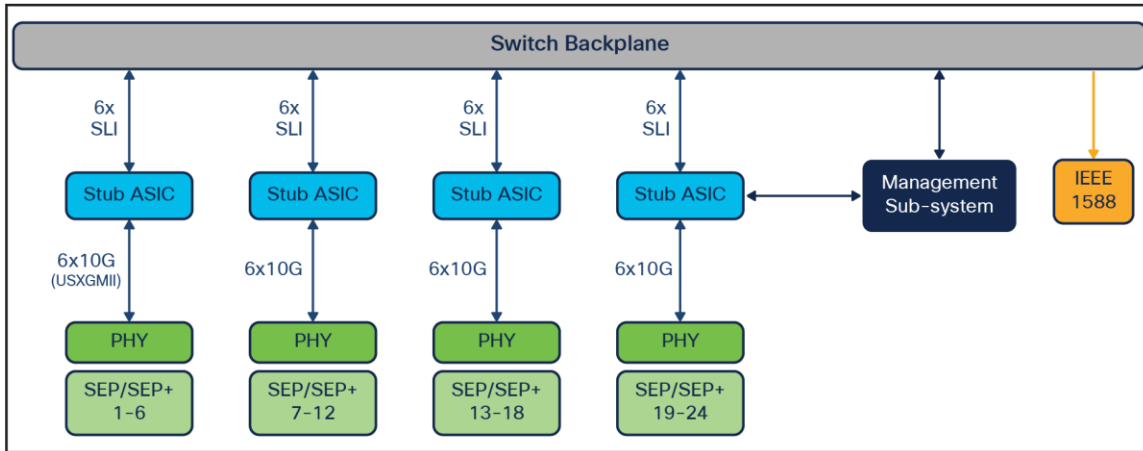

Figure 29.
- The C9400-LC-24S/48S line card provides 24x/48x 100/1000 Mbps fiber ports. Figure 29 Shows the architecture the C9400-LC-24XS line card.